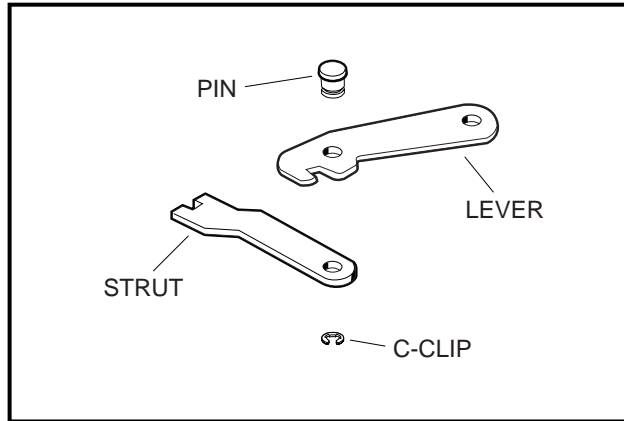

Figure 6-7 Park Brake Lever and Strut
- 6.3. Disassemble the lever and strut by removing the c-clip and pin (**Figure 6-7, Page 6-11**).